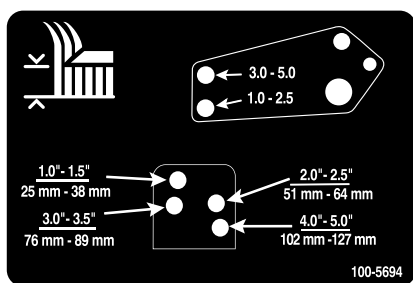

Figure 29
10. Align the damper-link holes with the selected height-of-cut bracket holes in the mower-deck frame, insert the clevis pins, and install the hairpin cotters (Figure 29).